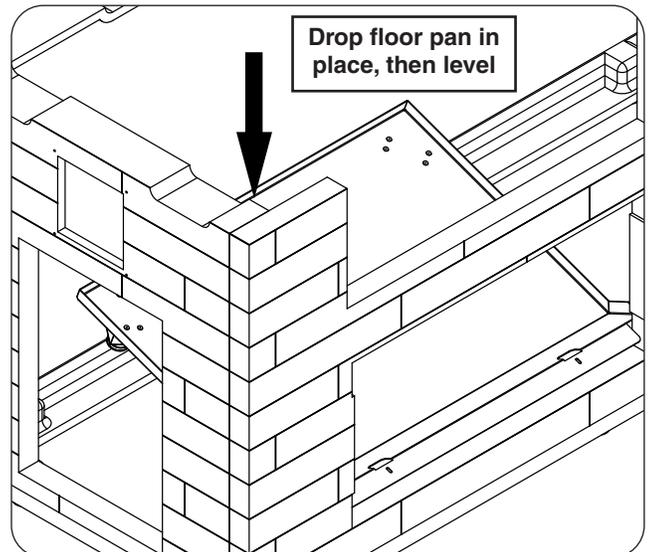

Fig. 9-3 Place floor pan
1. Place floor pan into the double door cutout as shown (see Fig. 9-3).